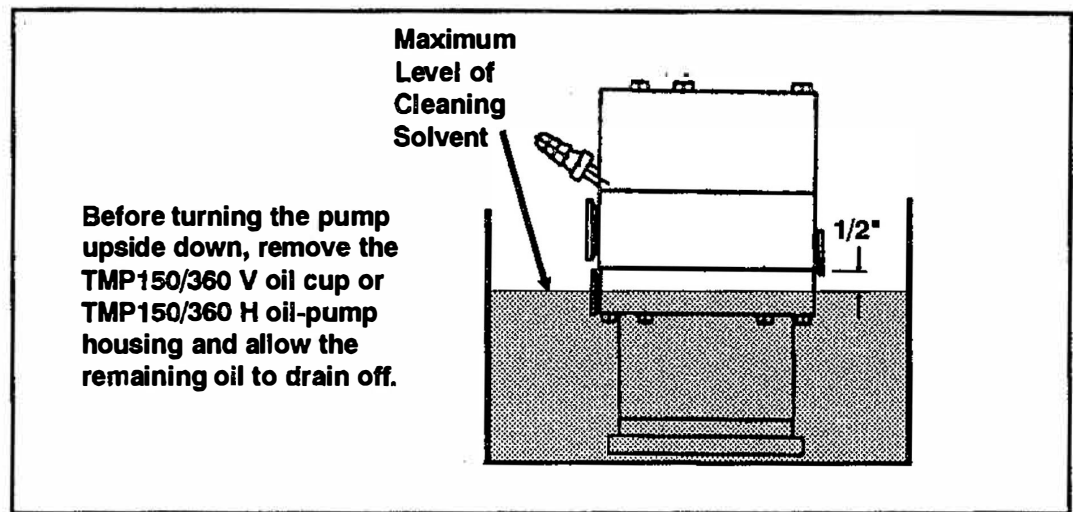

Figure 4-6. Turbopump Cleaning without Disassembly
CAUTION: In the following step, DO NOT allow the cleaning solvent level to be higher than 1/2 inch (12.7 mm) below the edge of the pump housing (see Figure 4-6). This prevents cleaning solvent from entering into the ball bearing assembly.
3. Slowly lower the turbopump upside down into a container filled with a suitable solvent such as acetone. Freon TF works well but isn't recommended because of environmental concerns (see Figure 4-6).